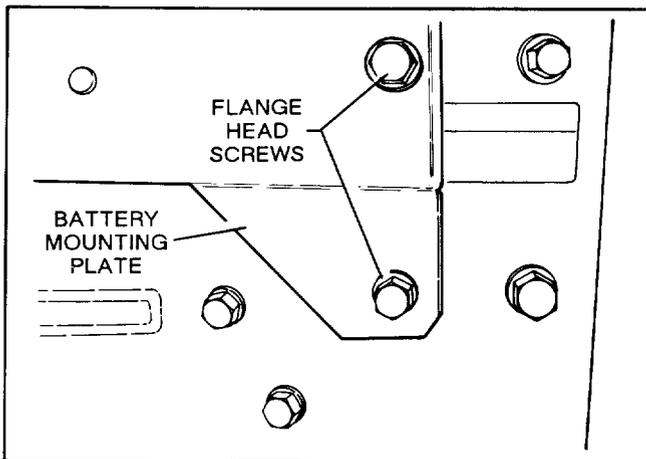

Figure 10
11. Secure front of battery mounting plate to engine frame and idler assembly with two 25 mm (1") lg. flange head capscrews (Fig. 10).